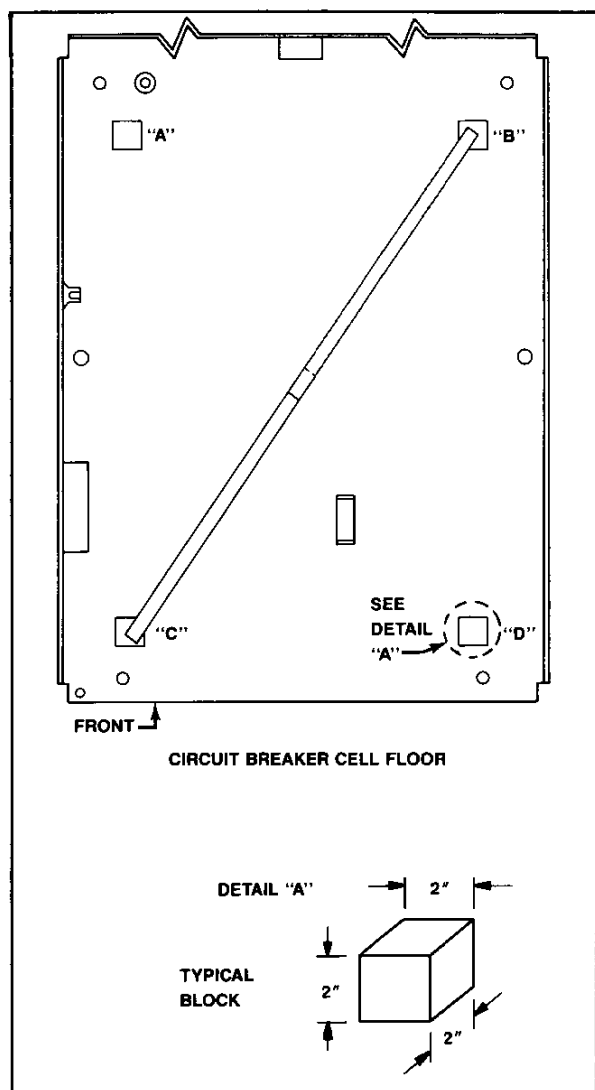

Figure 3-7
6. To check for levelness of the switchgear, place four 2 inch x 2 inch spacers on the floor of the cubicle as shown in Figure 3-7. All spacers must be square. Place a piece of wood 2 inches x 4 inches on the spacers as shown
in Figure 3-7. This 2 inches x 4 inches must have square sides. Check for levelness by placing a 2 foot level on this 2 inches x 4 inches. Check at points A to B, B to C, C to D, D to A, B to D and A to C. Refer to Figure 3-7.